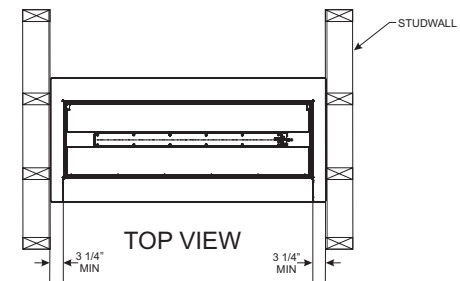

Figure 7
- Within a partial enclosure which includes an overhead cover and no more than two side walls. These side walls may be parallel, as in a breezeway. See Figures 7 and 8.